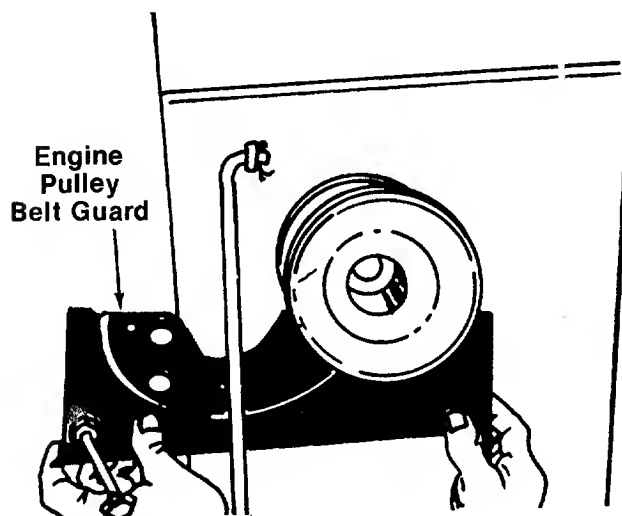

FIGURE 27.
6. Remove the engine pulley belt guard by slipping it back and to the right. See figure 27.